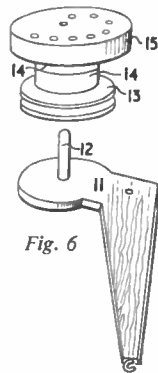

Fig. 6
wheel (9), and pivot this wheel to piece 2 with a roundhead screw, as shown in Fig. 5. Next make up the tensioning arm as shown in Fig. 6, noting that there is another opened screw eye at the end of piece 11. The assembly comprising pieces 13, 14, and 15 should revolve freely on the spindle (12).